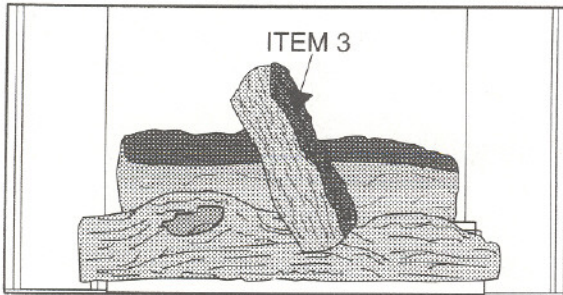

Figure 45
4. See Figure 45. Position the large straight log (Item 3) with the "bark" of the log to the right. Place one end of the log in the center indentation of the Front Log. Place the opposite end at a slight angle (to the left) near the center of the Back Log. Make sure the log passes over a single row of burner ports on the Burner Pan Assembly.